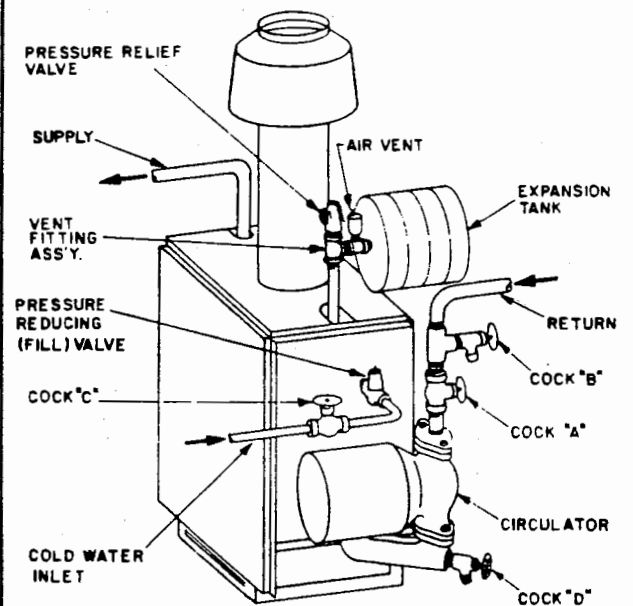

FIG. 2 TYPICAL PIPING FOR HOT WATER SYSTEM
5. Connect expansion tank to the 1/2" tapping in the vent fitting assembly as shown in Fig. 2. If diaphragm type expansion tank is used, thread tank directly into this fitting. Remove 1/8" pipe plug from top of fitting and install automatic air vent.
Connect hot water supply from the top of the boiler to the heating system feed line. Connect return to bottom rear flange. Typical piping connections for a forced hot water heating system are shown in Fig. 2.